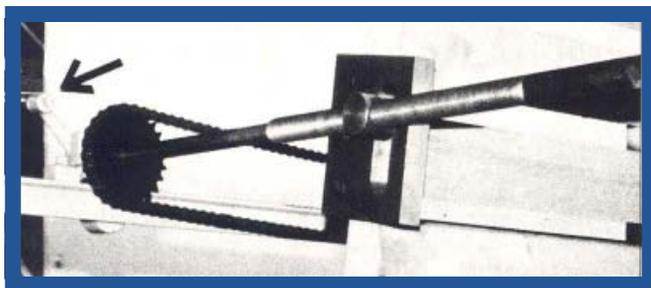

Figure 20: Collapsing frame with single point adjustment. Arrow indicates crank handle.
3. Collapsing frames must be aligned. The best collapsing frame is free of vibration and symmetrically mounted so it can be opened or closed about the center line of the bubble by a single control (**Figure 20**). Aligning the four lower corners of the frames individually is time consuming and difficult to do without racking them, which would worsen rather than solve a problem.